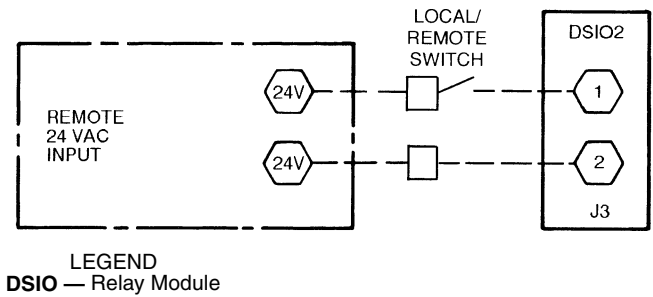

Fig. 22 — Remote START/UNOCCUPIED Control
Remote START/UNOCCUPIED Control — This control is for applications where it is necessary to control the unit occupancy mode from a remote timeclock or switch. See Fig. 22 for appropriate field wiring. When signal (24-v) is applied to Channel 49, unit will enter occupied mode. Removal of signal returns unit to unoccupied mode. Place LOCAL/REMOTE switch in REMOTE (ON) position.